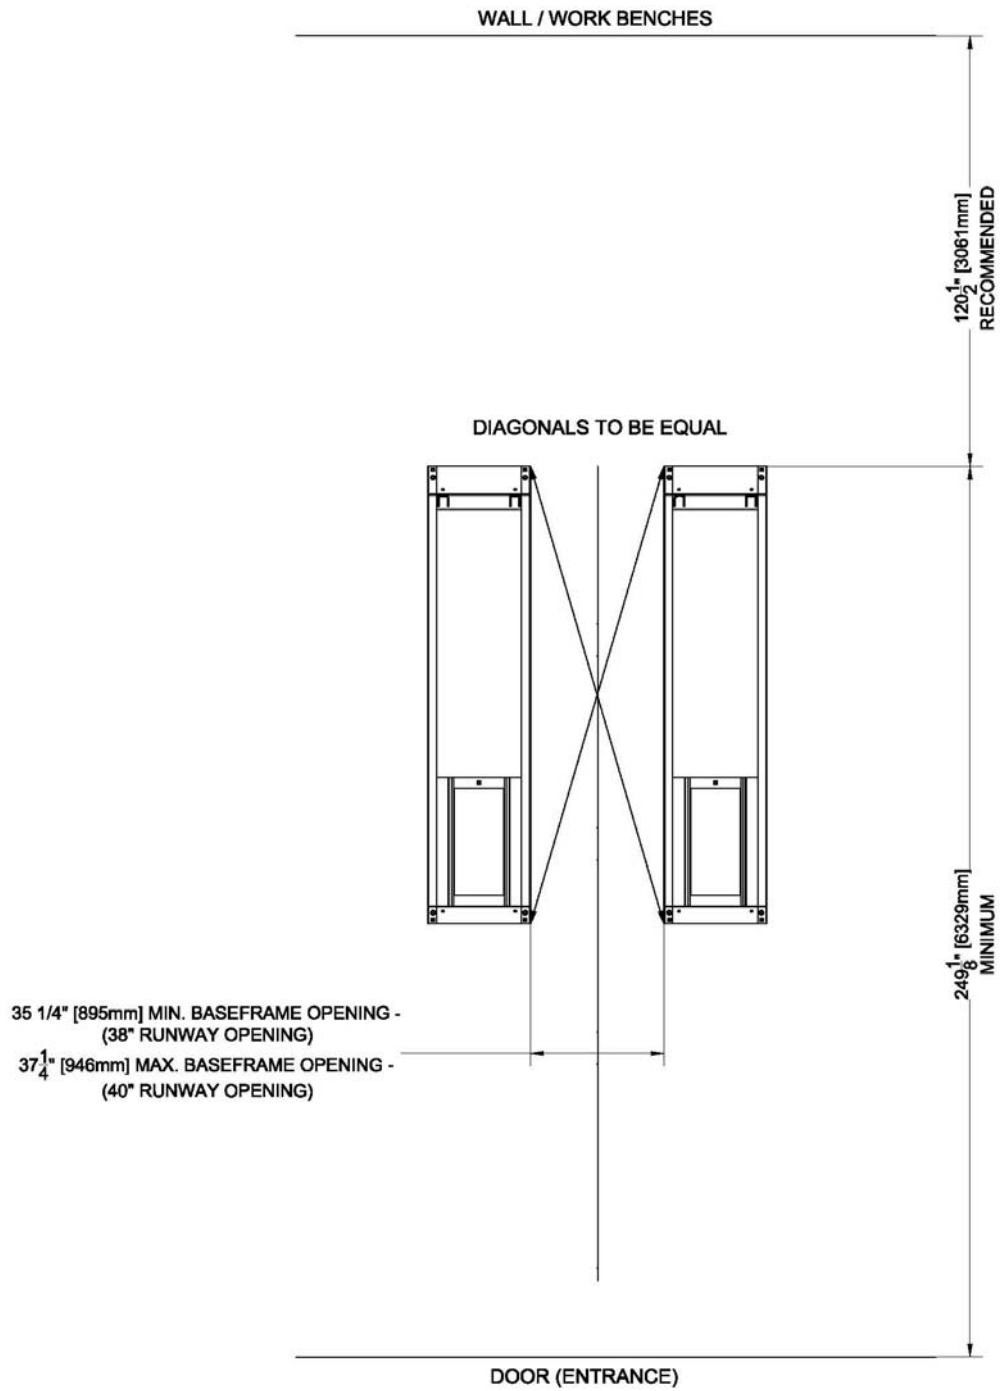

Figure 4 - Baseframe Locations
3. Measure and snap two (2) parallel chalk lines on either side the centerline for the inside edges of the baseframes. Refer to **Figure 4** for the dimensions necessary to provide the desired width between the two runways. A distance of 35 ¼” (895mm) between the baseframes will provide the standard width of 38” between the inside of the runways.